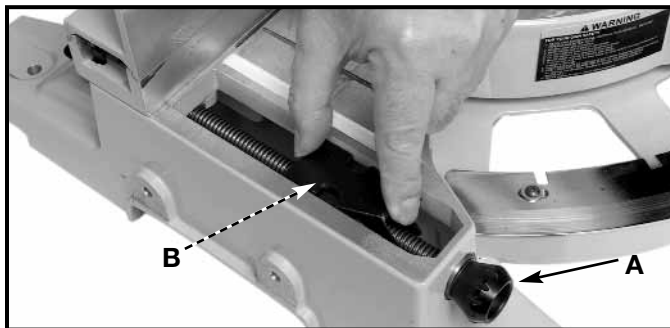
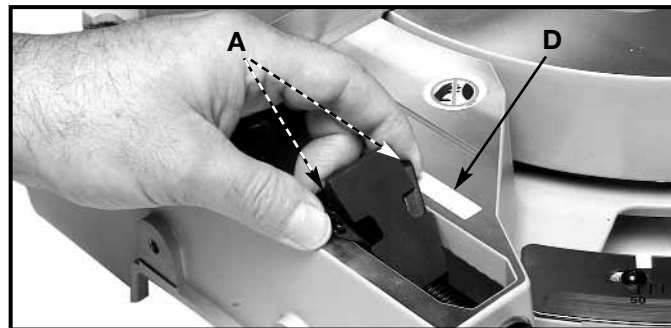
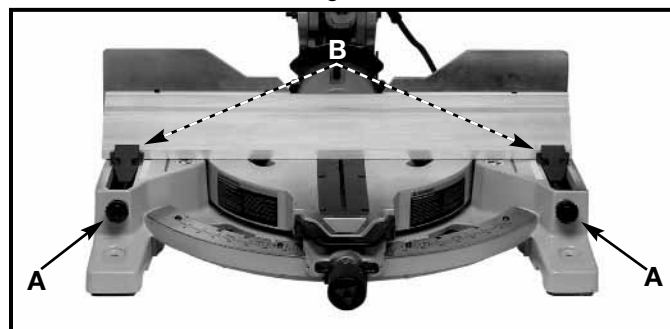

Fig. 43
Fig. 44
Fig. 45
Crown moulding stops have been built into the base to aid in holding the workpiece in position while cutting. This new design feature allows cutting crown moulding in either the flat or nested position and utilizes a stop and screw feature that can be quickly adjusted to accommodate several widths of crown moulding. The position of the stops can be adjusted by two methods. To adjust, turn knob (A) Fig. 43 until stop (B) is in the proper position to mount the crown moulding at the selected angle, or, squeeze the ears and depress the stop (A) Fig. 44 to disengage the stop (B) Fig. 43 from the screw. Then move the stop to the desired location and raise the stop until the ears snap in place (B) Fig. 45. Then if necessary turn knob(s) (A) Fig. 45 to fine adjust the stop. A recessed slot (D) Fig. 44 is provided for the user to add pencil markings to establish various quick reference stop positions.